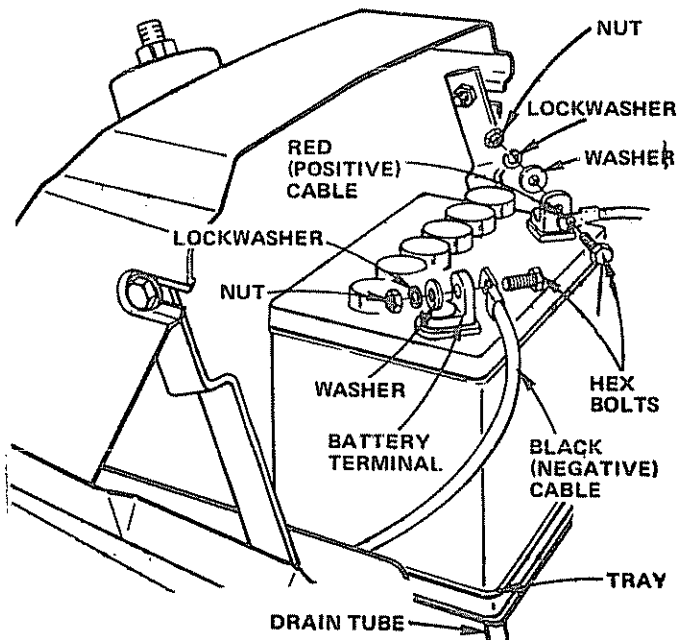

FIGURE 3
- c. Remove tape from Plastic Tray. Make sure Drain Tube (Fig. 3) is fastened to Drain Hole in Battery Tray and Battery Tray is positioned in hole of Battery Support.
- d. Place Battery in Plastic Tray (Battery Terminals to front of Tractor) (Fig. 3).
- a. Connect RED Battery Cable to Positive (+) Battery Terminal with Hex Bolt, Flat Washer, Lockwasher and Hex Nut (Fig. 3). Tighten securely.
- b. Connect BLACK Ground Cable to Negative (-) Battery Terminal with remaining Hex Bolt, Flat Washer, Lockwasher and Hex Nut (Fig. 3). Tighten securely.